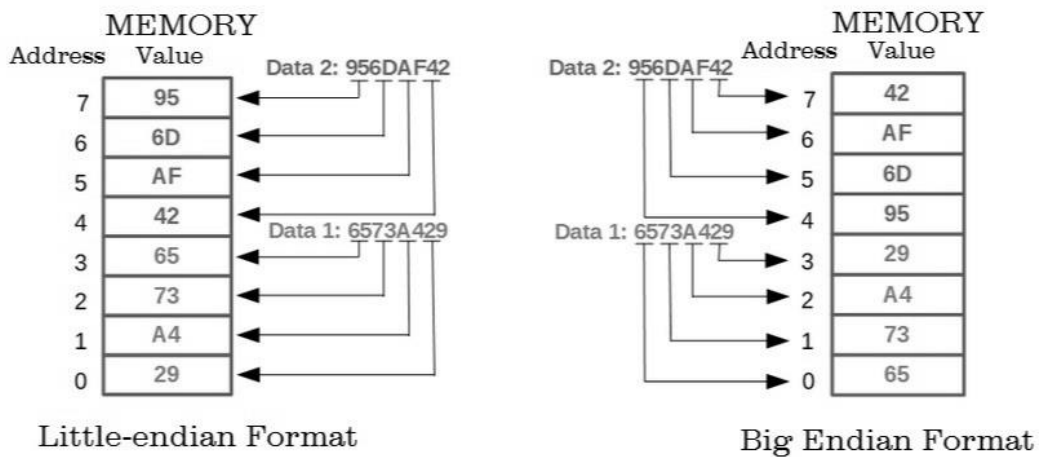

Figure 51: Data Recording Format for Big-endian and Little-endian Methods
**Note:** To record data based on Big-endian and Little-endian formats, refer to Figure 51.